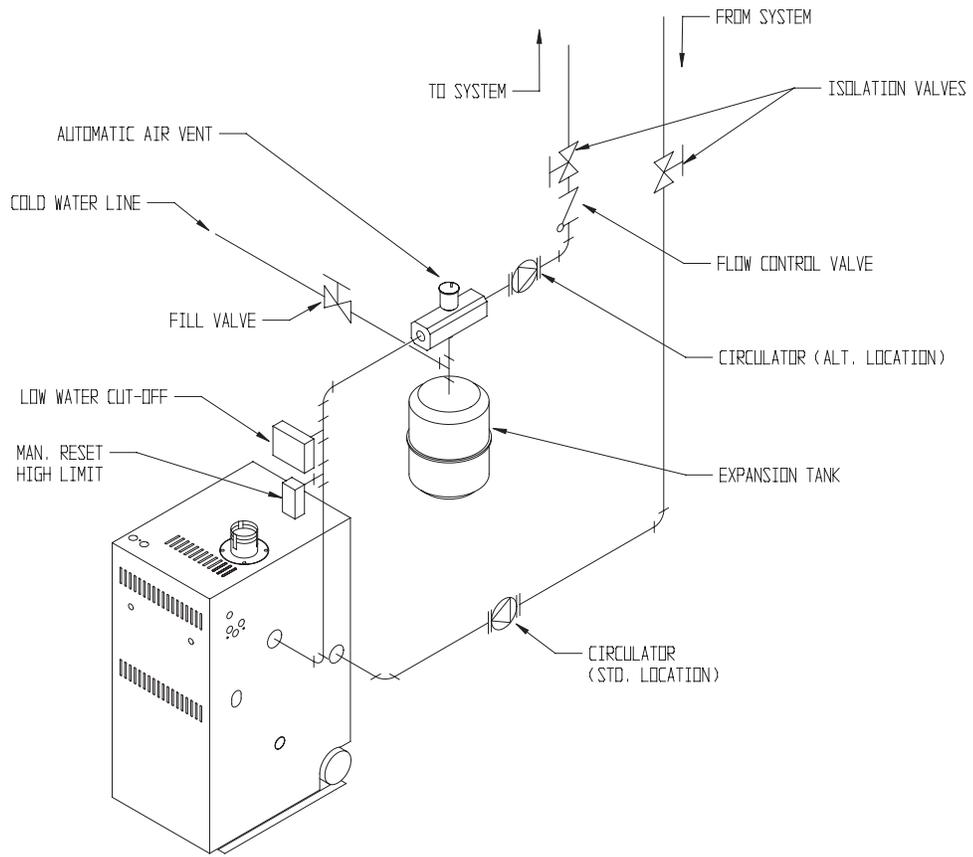

FIGURE 8.1: BASIC PIPING
Figure 8.1 shows typical boiler system connections on a single zone system. Additional information on hydronic system design may be found in *I=B=R Guide RHH* published by the Air-Conditioning, Heating and Refrigeration Institute (AHRI). The components in this system and their purposes are as follows:
- 2) **Circulator (Required)** – Although the circulator is shipped on the boiler return, it can be installed on the boiler supply. If the circulator is moved to the supply it should be positioned just downstream of the expansion tank as shown in Figure 8.1.